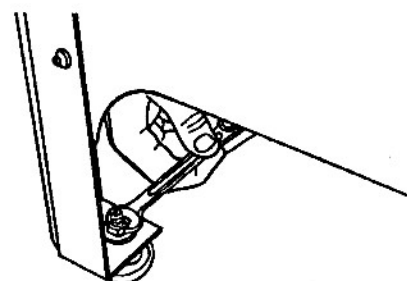

Fig. B-2
- a. Use a 9/16" wrench to loosen the top nut, as shown in Fig. B-2.